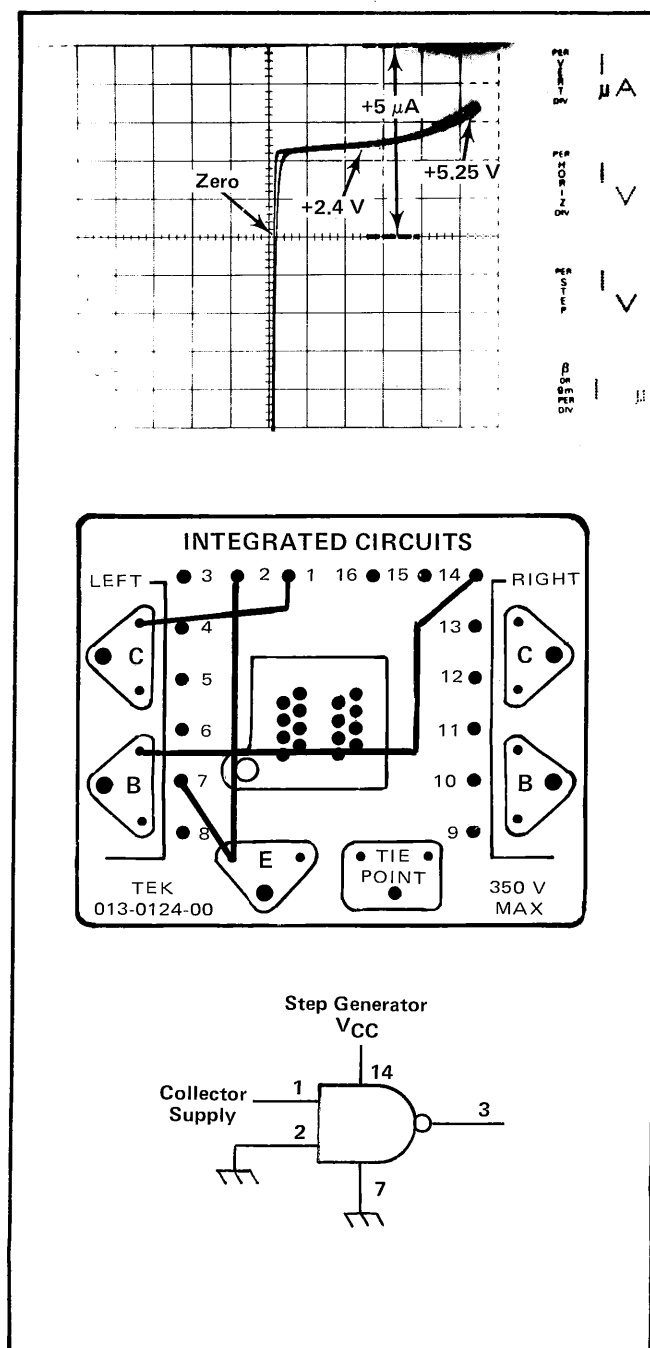

Fig. 8. Setup and Type 576 display for measuring I_{in} (1).
b. Connect the patch wires to the IC adapter as shown in Fig. 8.²
c. Set the LEFT-OFF-RIGHT switch to LEFT and turn the VARIABLE COLLECTOR SUPPLY control clockwise until the input voltage is at +5.25 V (see the display in Fig. 8).